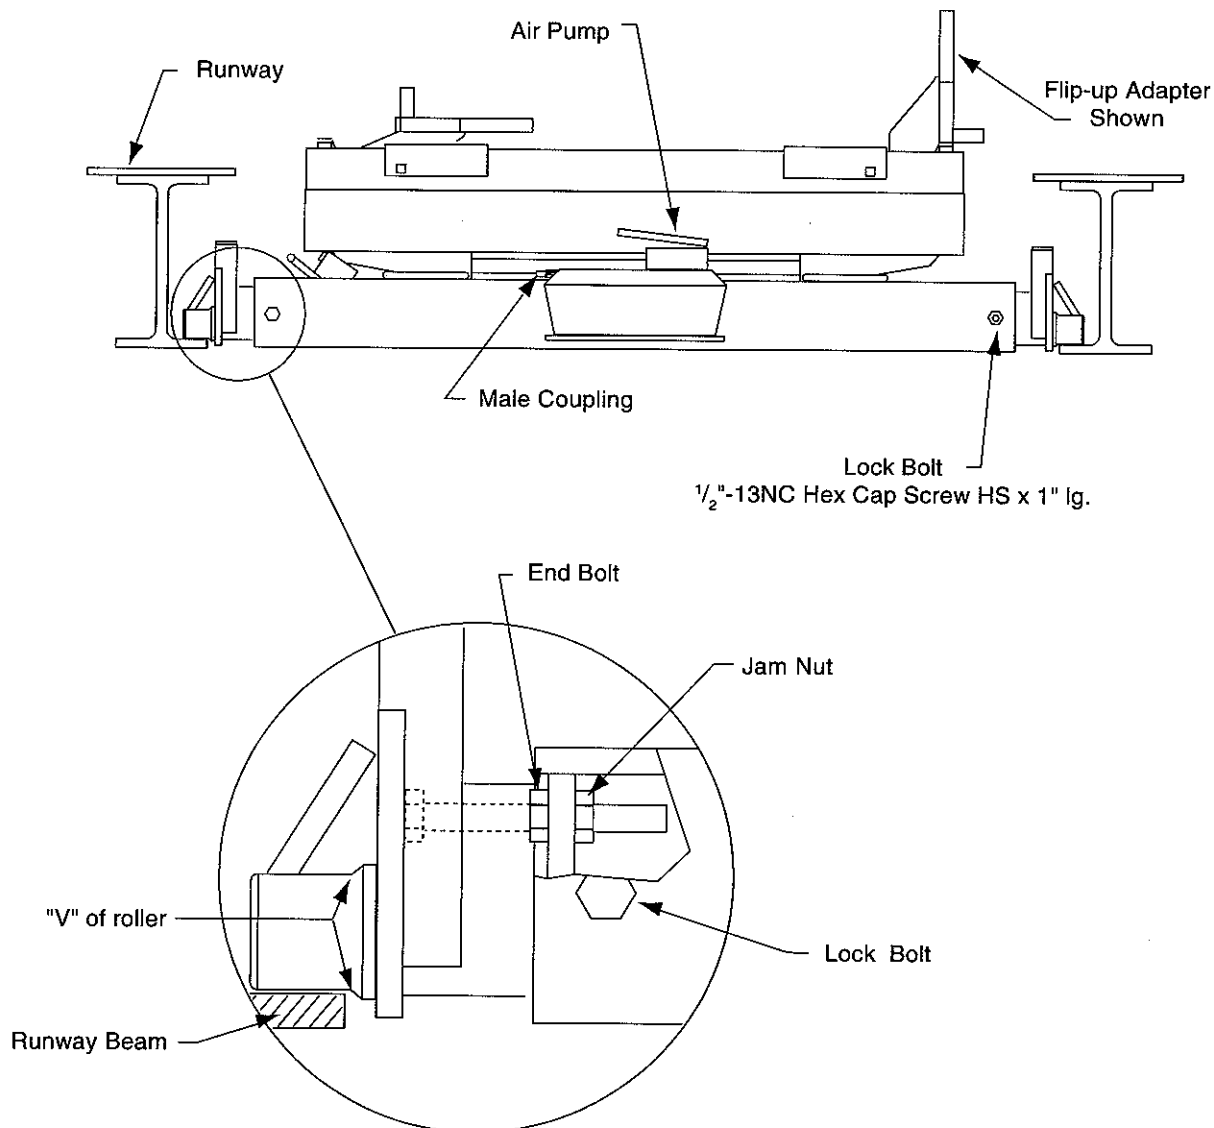

Fig. 1
- B. Loosen the four (4) telescoping end lock bolts, Fig. 1. Push both ends into the fully retracted position.
- D. Pull telescoping ends out until runway beams reach the "V" of each of the roller flanges, refer to inset in Fig. 1.